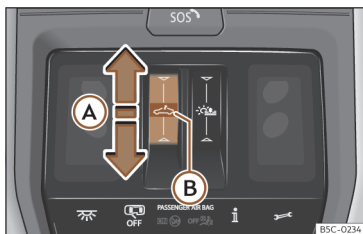

Fig. 86 On the headliner: glass roof button.
- Automatic movement: slide your finger back over the functional area  >>> **Fig. 86 (A)**.
- Before approx. 5 seconds after activation of the anti-trap function, slide your finger forward over the functional area 🖐 >>> Fig. 86 (A) and keep pressed until the sunroof is fully closed.